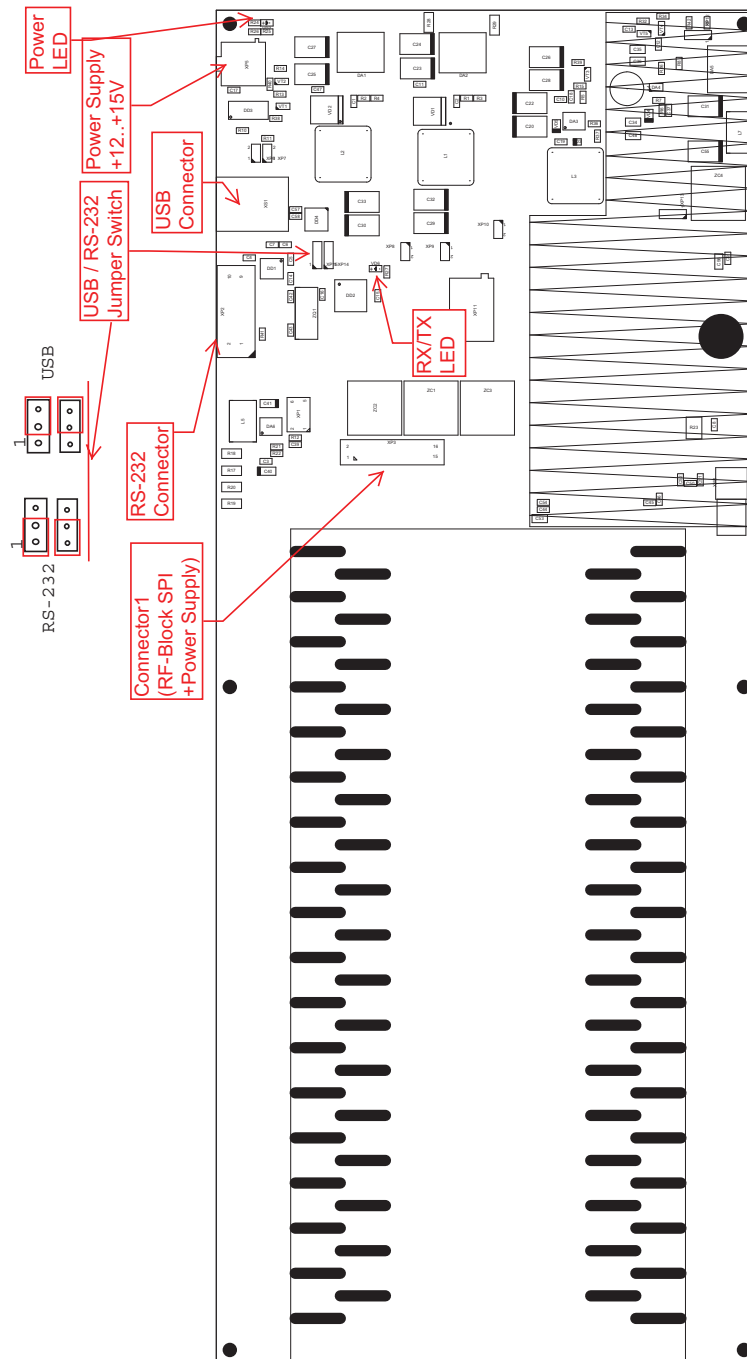

Figure 4: RS2SPI Evaluation Board
LNO-KIT includes LNO Frequency Synthesizer and RS2SPI evaluation board (fig. 4). It is designed for quick start and helps to understand SPI protocol command set and algorithms used to control LNO synthesizer. All SPI commands which sent to the module are displayed in log window of the application. So you can easily check yourself while debugging of your own control system of the synthesizer. For remote control of LNO module follow the steps below.
1. Connect LNO module to the RS2SPI board (*Connector 1* located on the top side of the board, see fig. 4) via SPI cable (16-pin, 2-mm pitch, IDC flat cable).
2. Connect RS2SPI board to PC via USB or RS-232 cable (see jumper positions for USB/RS-232 use on fig. 4)